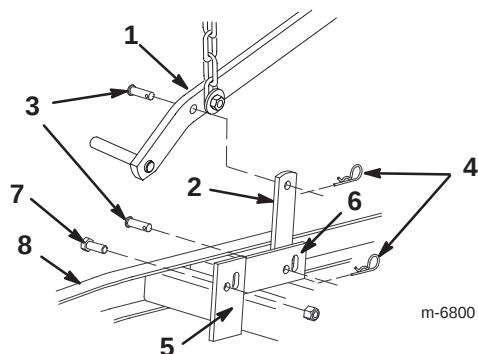

Figure 10
9. Insert the lift channel with channel plate into the frame (Fig. 10).
6. Remove the hairpin cotter and clevis pin that secures the attachment lift arm from the upper end of the lift link (Fig. 10).